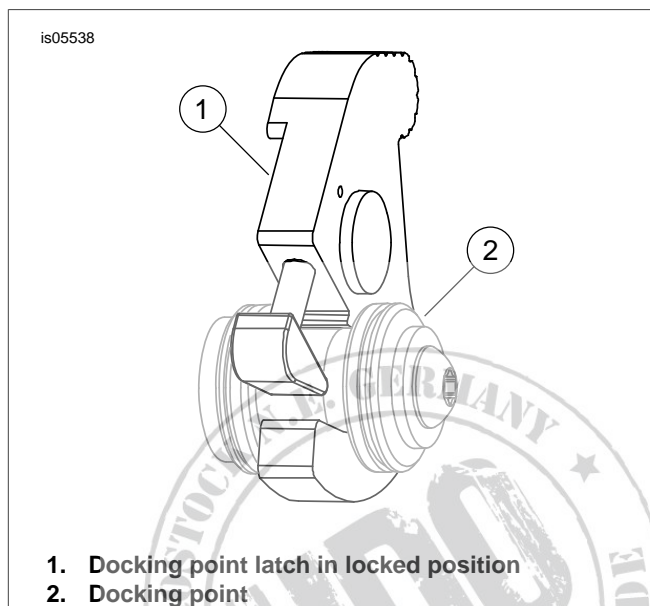

Figure 2. Latch and Docking Point
3. See Figure 2. Position the rotary latches (1) over the rear docking points (2). Check to be sure the rotary latches fit into the neck of the rear docking points as shown. This may require some gentle squeezing or spreading of the side plates.